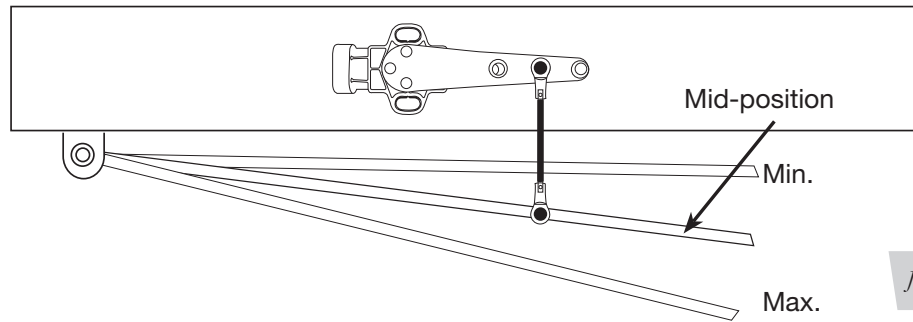

fig. 23
2. Next put the suspension in the mid-position with respect to full suspension travel (fig. 23).